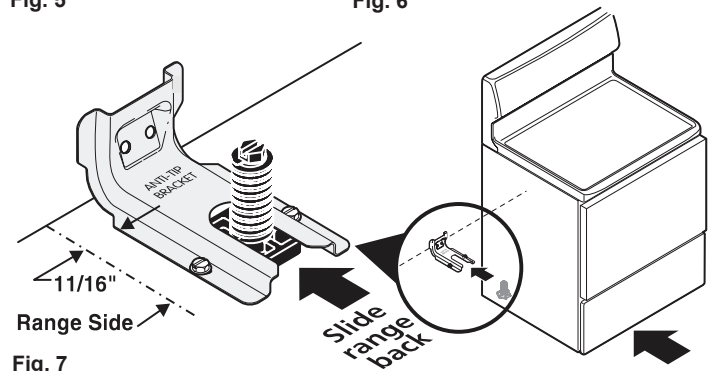

Fig. 7
1c. Level and Position Range - Level range by adjusting the (4) leveling legs with a wrench. **Note:** A minimum clearance of 1/8" is required between the bottom of the range and the leveling leg to allow room for the bracket. Use a spirit level to check your adjustments. Slide range back into position (See Fig. 7). Visually check that rear leveling leg is inserted into and fully secured by the Anti-Tip Bracket. For models with a Warmer Drawer or broiler compartment, grasp the top rear edge of the range and carefully attempt to tilt it forward.